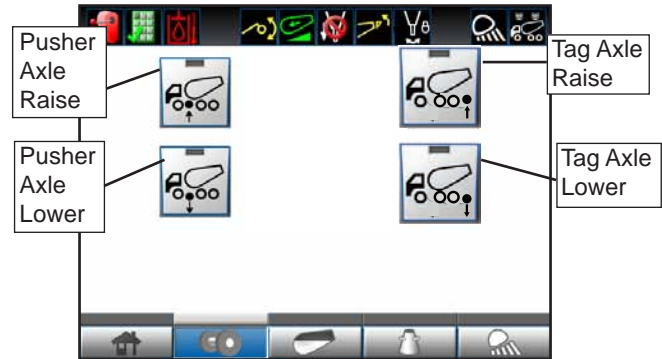

Figure 55
3. AXLE operation screen appears; touch the button for the desired lift axle operation (raise or lower) (Figure 55, to raise and to lower).